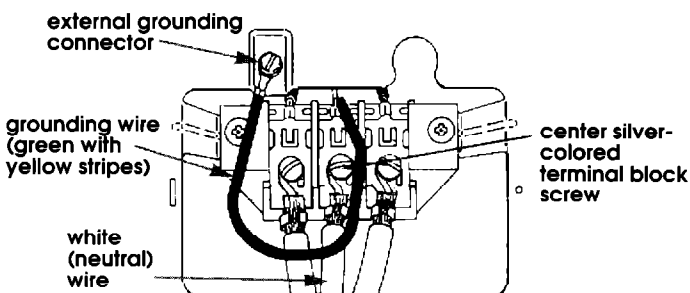

Figure 4
5. Connect the white (neutral) wire of the flexible armored or non-metallic sheathed copper power supply cable to the center, silver-colored terminal screw of the terminal block. Connect the other wires to the outer terminals. See Figure 4.